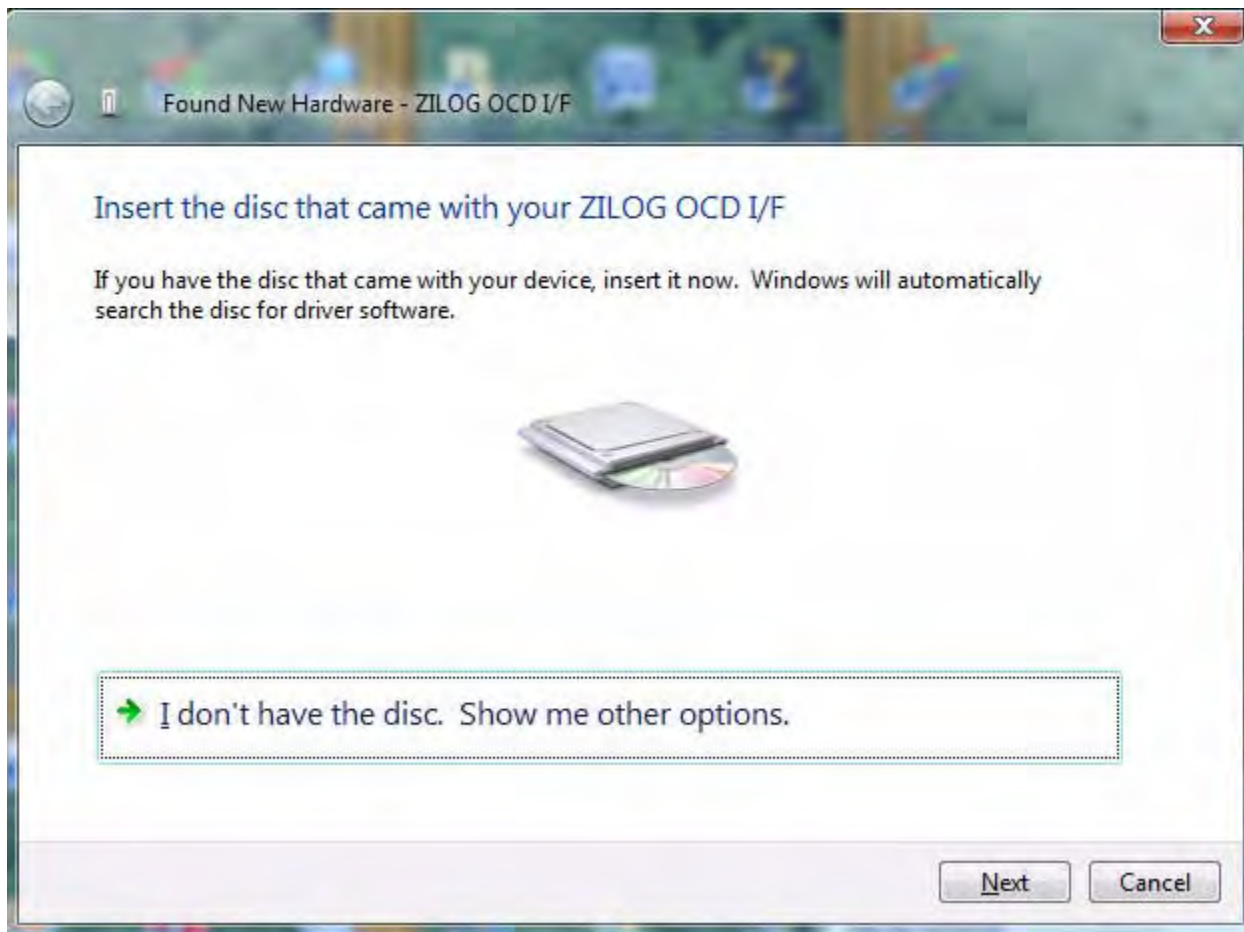
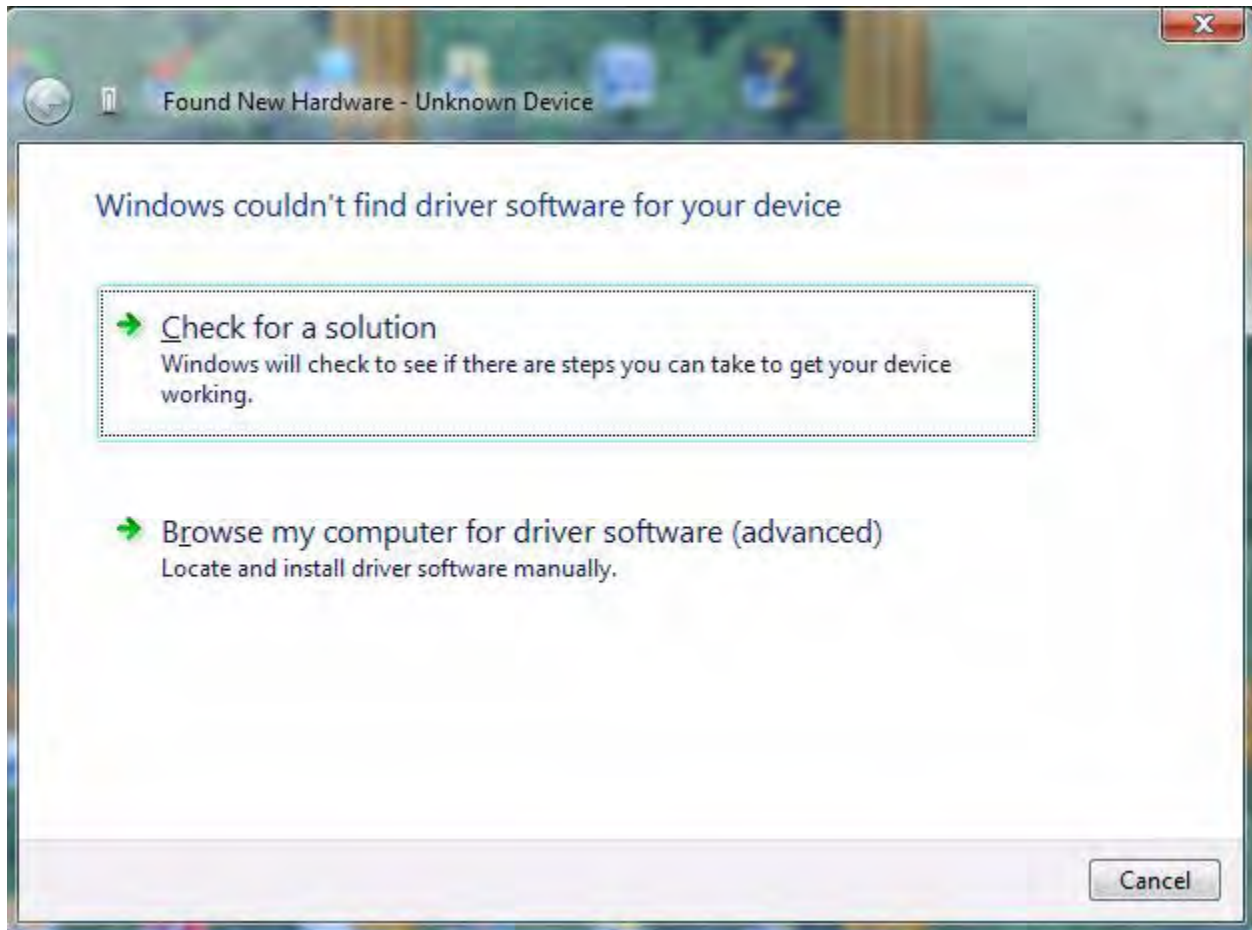

Figure 35. Install Device Driver Dialog, Windows Vista
Figure 36. Couldn't Find Driver Dialog, Windows Vista
4. When the **Insert the Disc** dialog appears, as shown in Figure 35, select **I don't have the disc. Show me other options.** Click the **Next** button to display the dialog that follows, which is shown in Figure 36.